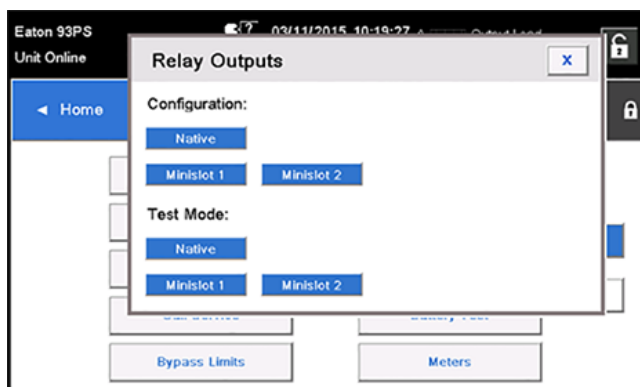

Figure 29. Options for relay outputs configuration
10. You can test the relays by selecting any of the options in the test mode (see Figure 29).